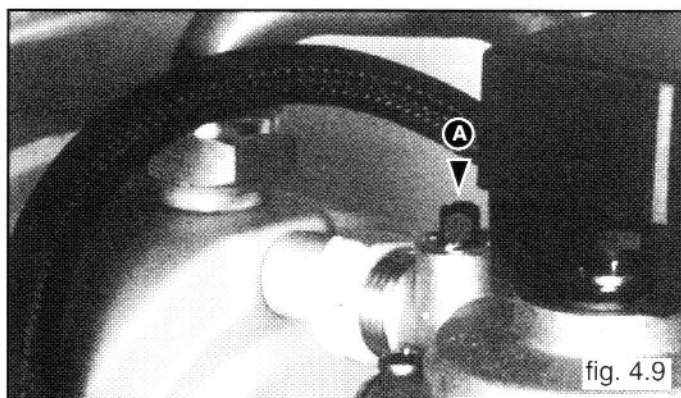

fig. 4.9
- Using a flow meter, set the flow on 13 lts/min (3.43 gals/min) by turning screw "A" (see fig. 4.9) for DIA 24 MI CE and 11 lts/min for DIA 20 MI CE models.